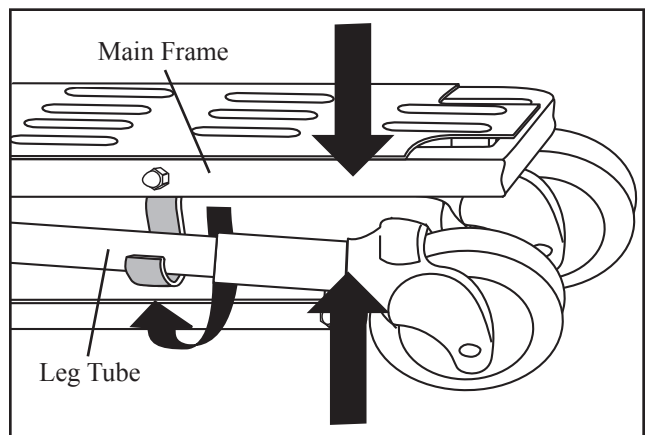

Figure 5 - Engaging the Leg-Lock Clip
2. Squeeze the leg tube and the main frame together near the clip, then slide the clip under and around the leg tube to lock the leg in place (Figure 5).